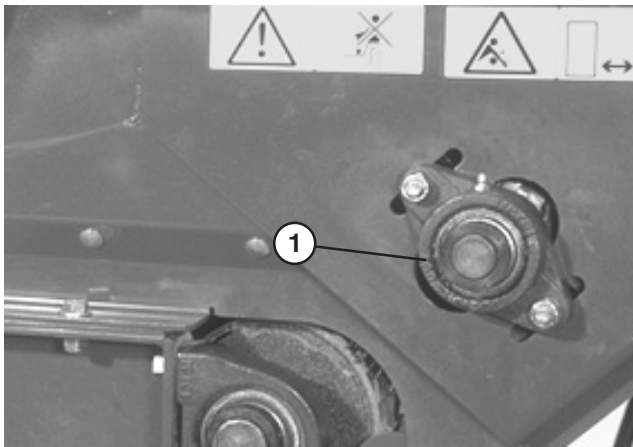

Figure 15
1. Loosen nuts securing bearing housing (Fig. 15) to right side of machine.